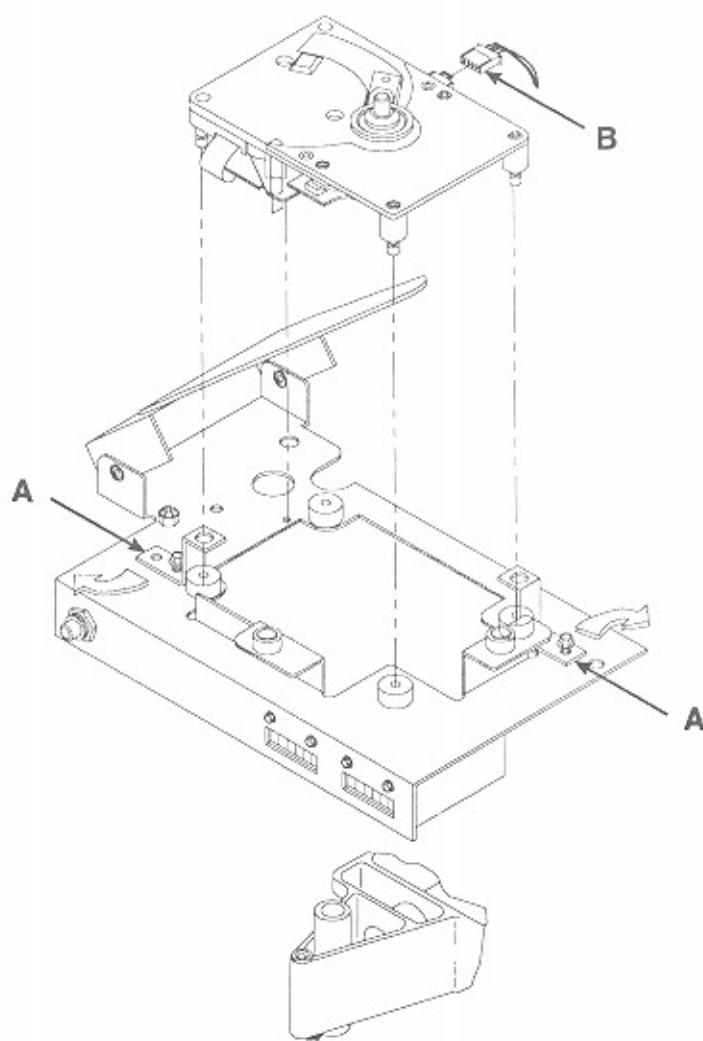

Figure 6-2A. Removing The CD Player
2. Refer to *figure 6-2A* as you do this step. To remove the player, loosen the screws holding the two retaining brackets (A) in place, swing the brackets out of the way, and lift the player straight up (If any of the four grommets from the player posts remain attached to the player, remove them from the player posts and place them in corresponding hole in the mounting frame).
3. Refer to *figure 6-2A* as you do this step. If not previously done, disconnect the small player electrical plug (B).